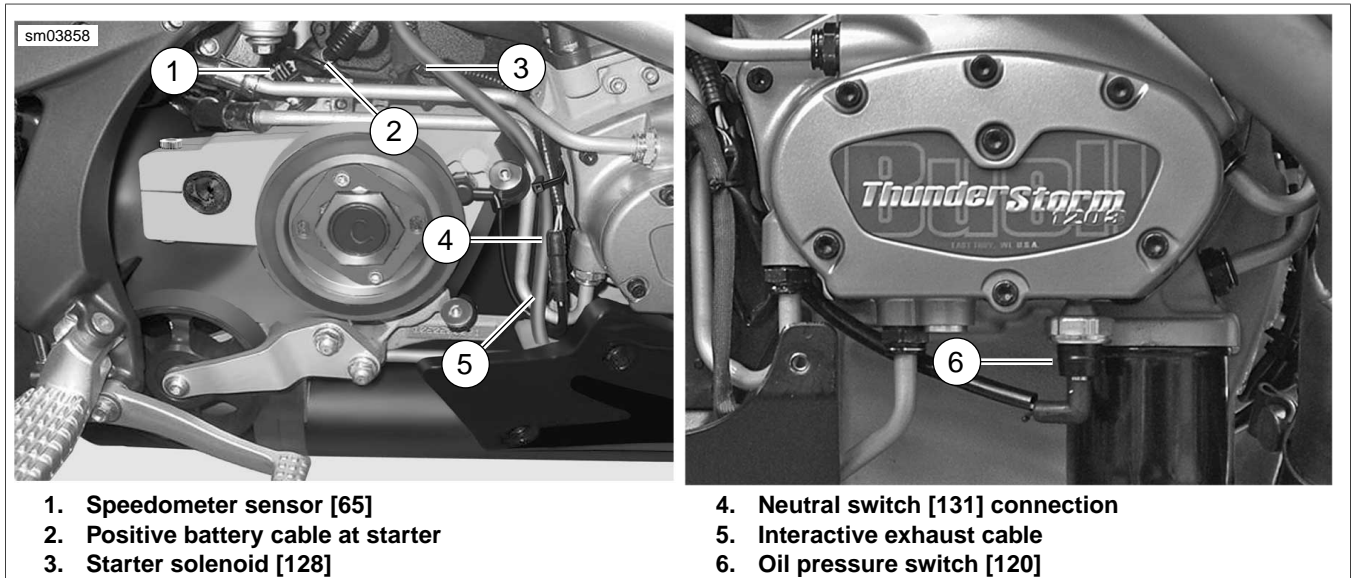

Figure 3-38. Electrical Connections on Right Side of Motorcycle
See Figure 3-38. Route neutral indicator switch and the oil pressure indicator switch wiring behind the vent oil line. Route the interactive exhaust cable in front of the vent and return oil lines and bundle all three together with a cable strap as shown.
28. See Figure 3-38 before connecting the following electrical components:
- a. Neutral switch [131] (4).
- b. Speedometer sensor [65] (1).
- c. Positive battery cable at starter (2).
- d. Starter solenoid [128] (3).
- e. Oil pressure switch [120] (6).